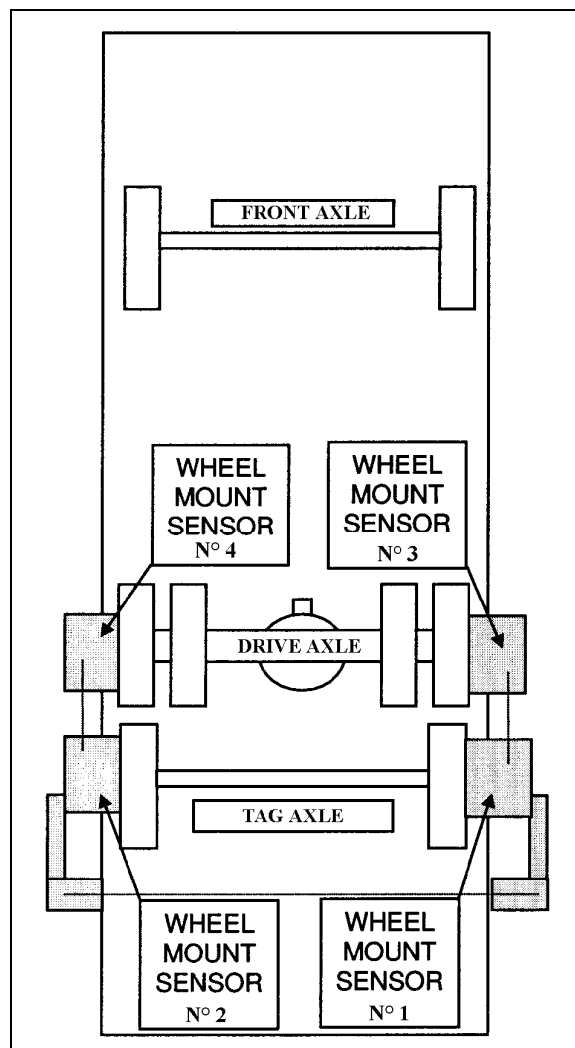

FIGURE 8: TAG AXLE ALIGNMENT 11026
- Remove and reinstall all wheel mount sensors on the drive and tag axles (fig. 8);
Reinstall wheel mount sensors as shown in figure 8. For example, the sensor from the right side of the front axle is mounted on the left side of the tag axle.